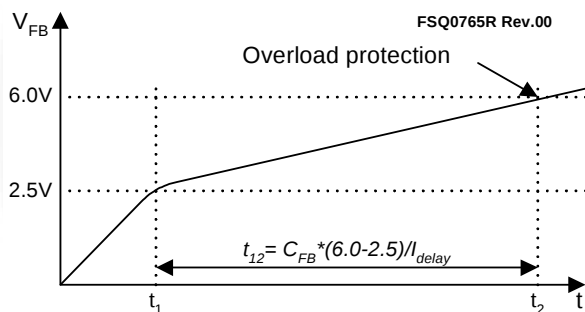

Figure 29. Overload Protection
4.1 Overload Protection (OLP): Overload is defined as the load current exceeding its normal level due to an unexpected abnormal event. In this situation, the protection circuit should trigger to protect the SMPS. However, even when the SMPS is in the normal operation, the overload protection circuit can be triggered during the load transition. To avoid this undesired operation, the overload protection circuit is designed to trigger only after a specified time to determine whether it is a transient situation or a true overload situation. Because of the pulse-by-pulse current limit capability, the maximum peak current through the SenseFET is limited, and therefore the maximum input power is restricted with a given input voltage. If the output consumes more than this maximum power, the output voltage (V_O) decreases below the set voltage. This reduces the current through the opto-coupler LED, which also reduces the opto-coupler transistor current, thus increasing the feedback voltage (V_{FB}). If V_{FB} exceeds 2.5V, D1 is blocked and the 5μA current source starts to charge CB slowly up to V_{CC} . In this condition, V_{FB} continues increasing until it reaches 6V, when the switching operation is terminated, as shown in Figure 29. The delay time for shutdown is the time required to charge C_{FB} from 2.5V to 6V with 5μA. A 20 ~ 50ms delay time is typical for most applications.